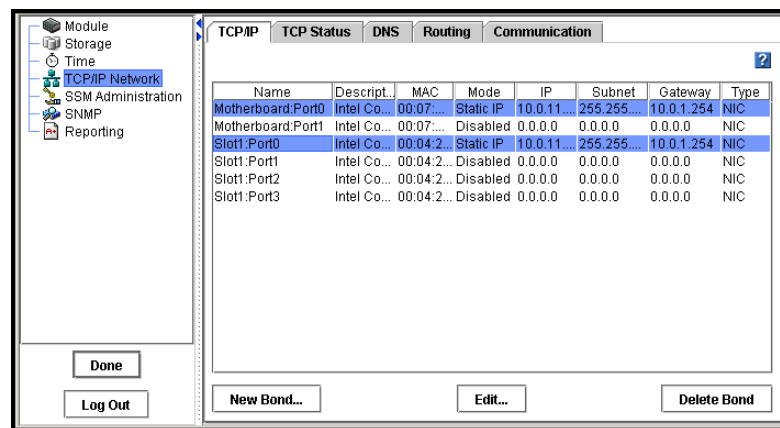

Figure 56. Selecting Motherboard:Port0 and Slot1:Port0 for a New Bond
3. On the TCP/IP tab, shown in Figure 56, select 2 or 4 NICs to bond.